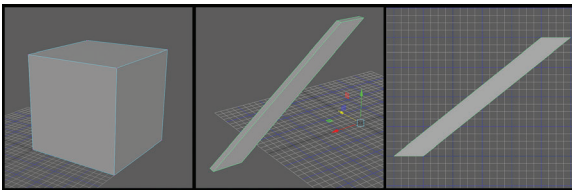

FIGURE 1.57 Building the stairs. Note that for modularity to work, the exact positions of the snapped vertices are important.
Step 10: Stair frame. Create a cube and set the Scale X, Y and Z to 256. Snap its pivot to the back lower left corner and snap the cube to sit at the positive quadrant. Move (and snap) its bottom and top row of vertices to make a tilted frame for the stairs. Its bounding box length is 6×64 units (six blue grids). The footing of the shaft is 64 units, and the thickness of the shaft is 16 units (one gray grid). The results look like Figure 1.57.